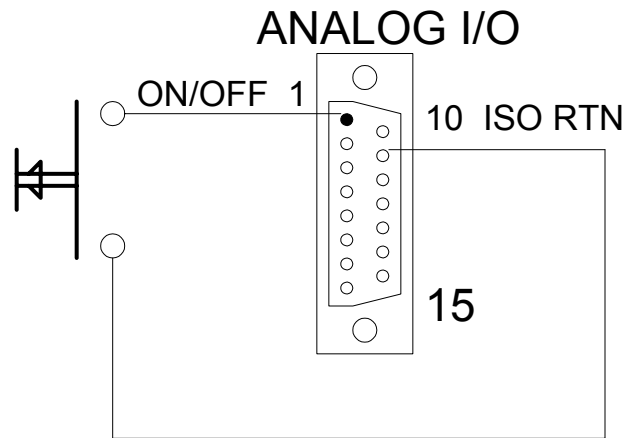

Figure 4-9: Remote On / Off Control by Contact Closure
1. Remote on/off by contact closure. Output is OFF when contacts are closed. See Figure 4-9 for connection requirements.